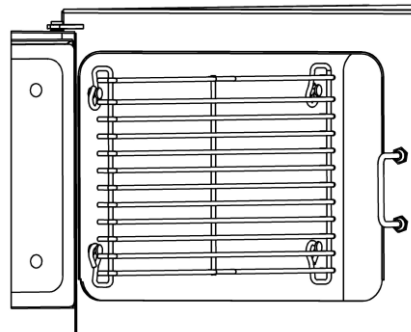

Figure 3-1
- 1. Refer to Figure 3-1. Each rack has four loops: two top, and two bottom. Hold the slide rack so the ends of the hanger loops are towards compartment wall, as shown in Figure 3-1.